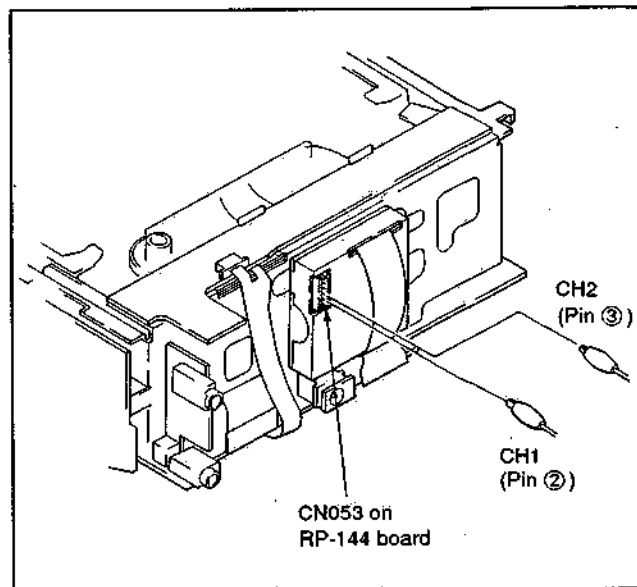

Fig.7-1.
- 4) Check that the RF waveform of the oscilloscope is flat at the entrance and exit. (Refer to Figs. 7-1, 7-2.)